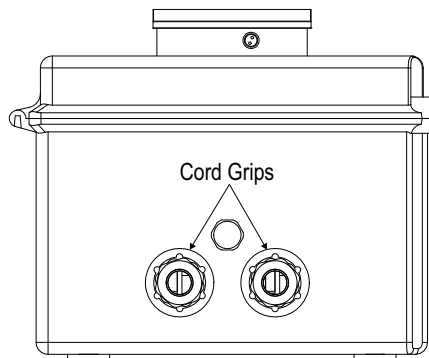

Figure 2. Cord Grip Locations
1. Run cables through the cord grips of the enclosure (see Figure 2).